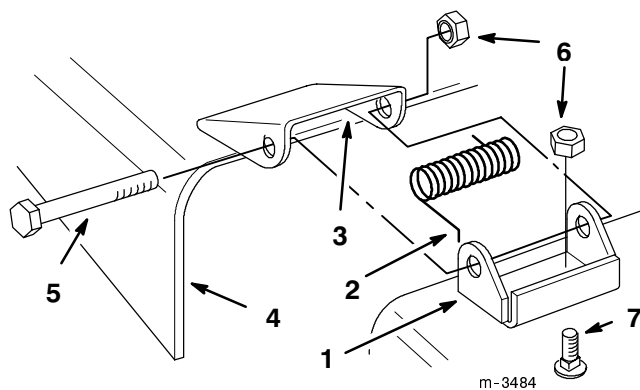

Figure 35
1. Install mounting brackets onto the mower with 5/16 x 3/4" carriage bolts and 5/16" lock nuts (Fig. 35).
2. Place springs into brackets on mower with hooked ends over raised back (Fig. 35).
3. Align the discharge chute with holes in brackets and spring straight ends in space under hinge and above chute (Fig. 35).
4. Secure the chute to the bracket with bolts through discharge chute, springs, and brackets. Secure with lock nuts (Fig. 35).